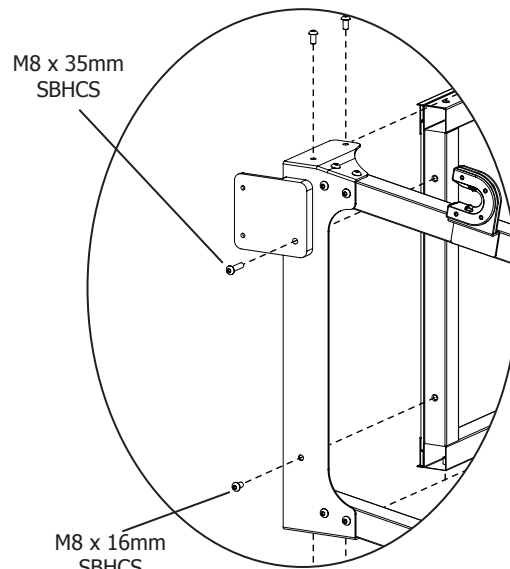

Fig. 4-2
4-2: Slide the left leg assembly under the table assembly, as shown in Fig. 4-2.
4-3: Screw one (1) M8 x 35mm SBHCS through the top hole on the side of the left frame side, and one (1) M8 x 16mm SBHCS through the bottom hole, as shown in Fig 4-2, **finger-tighten** only.